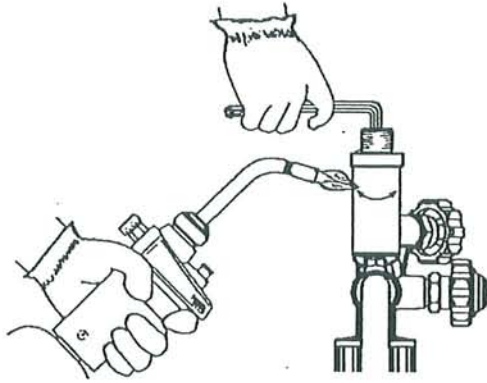

Figure 2: Removing the Flashback Arrestors
**CAUTION** Always wear gloves when handling heated parts (see Figure 2).